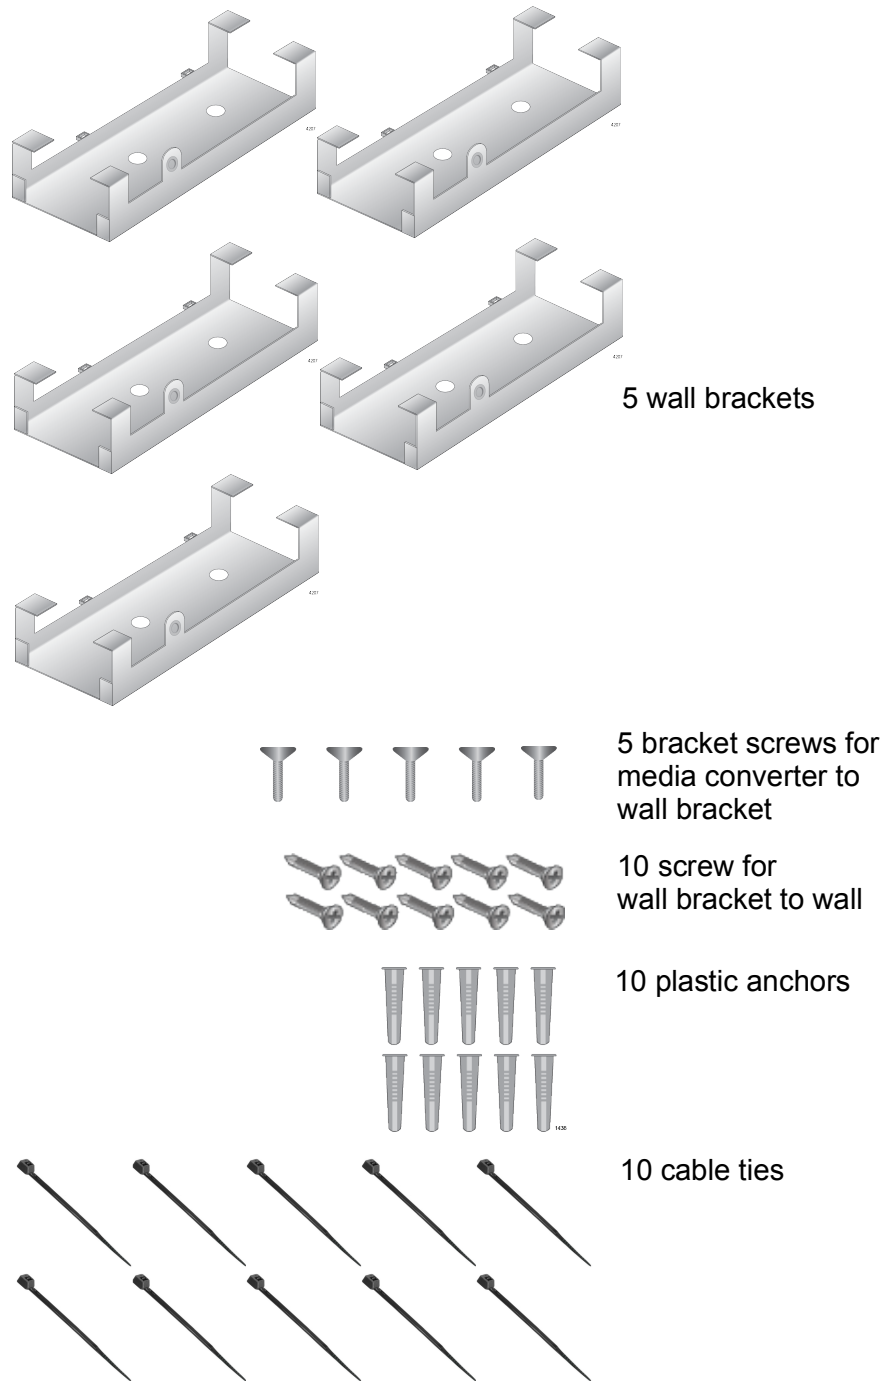

Figure 27. AT-DMCWLMT-005 Bracket Kit Shipping Package Contents
2. verify that the shipping container includes the following items as shown in Figure 27.